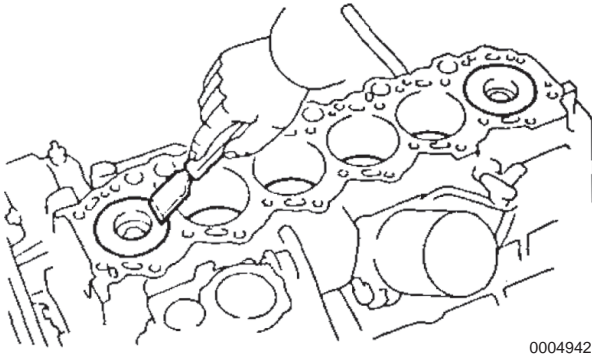

Figure 5-17
1. Turn the crankshaft to bring each piston to top dead center. Remove all carbon deposits from the piston tops using a scraper (**Figure 5-17**).